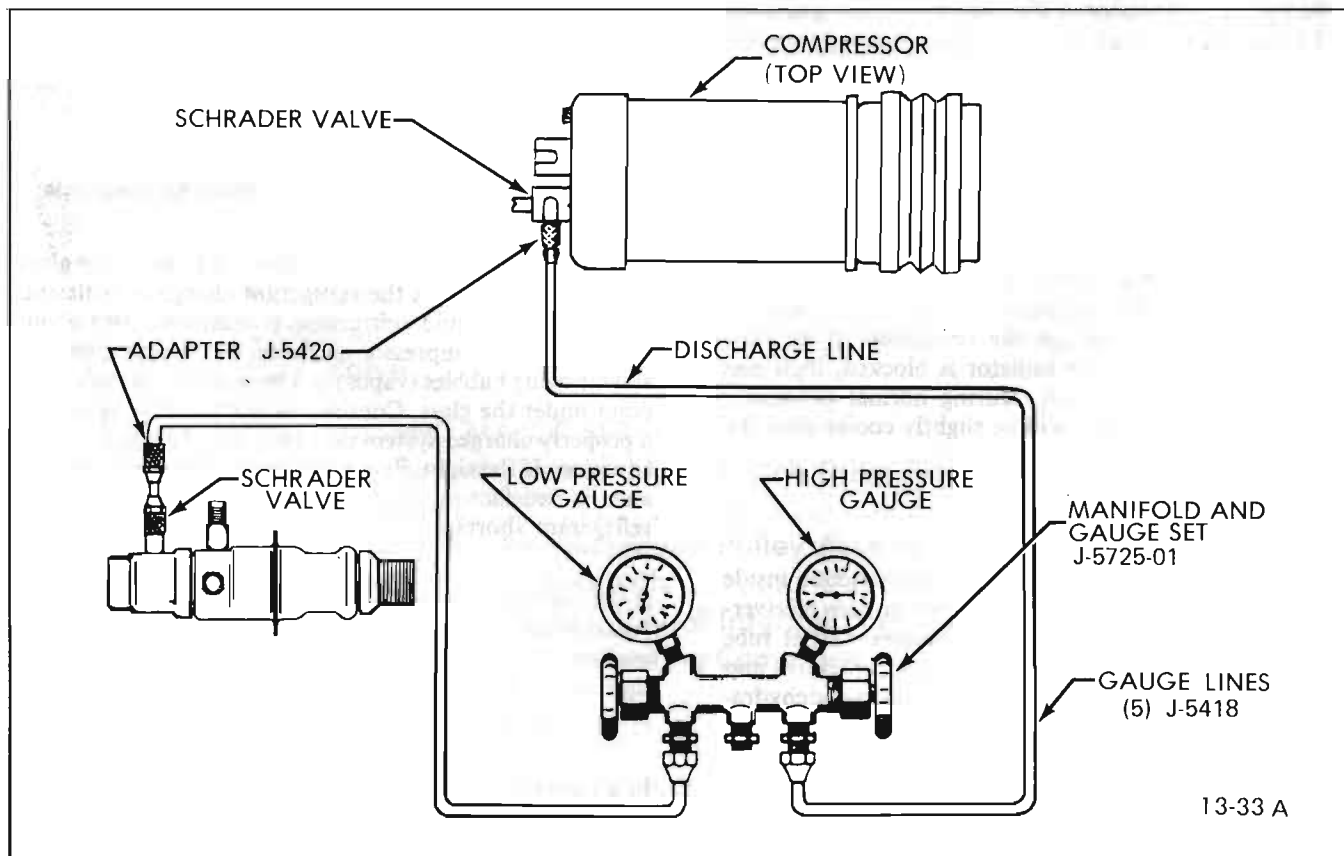

Figure 13-1 Functional Test Set-Up
2. Interconnect manifold and gage set (J-5725-01), gage charging lines (J-5418) and gage adapters (J 5420) to air conditioning system as shown in Figure 13-1.